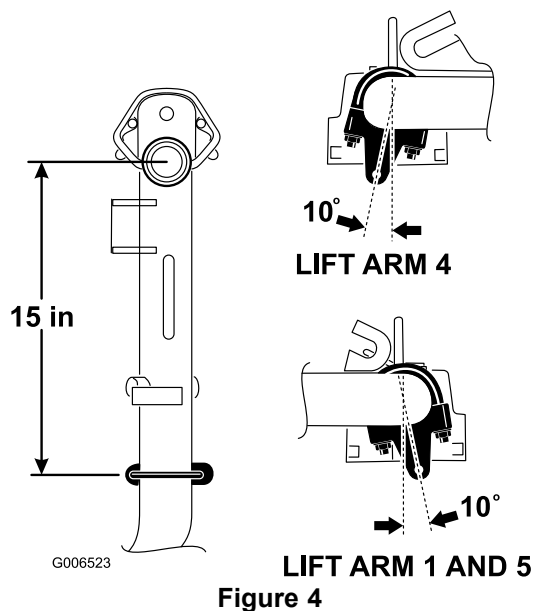

Figure 4
1. On lift arms #1, #4 and #5, position the chain brackets and U-bolts 15 inches behind the center line of the pivot knuckle (Figure 4). On lift arms #1 and #5 the brackets should be rotated to the right 10 degrees from vertical (Figure 4). On lift arm #4
the bracket should be rotated to the left 10 degrees from vertical (Figure 4).